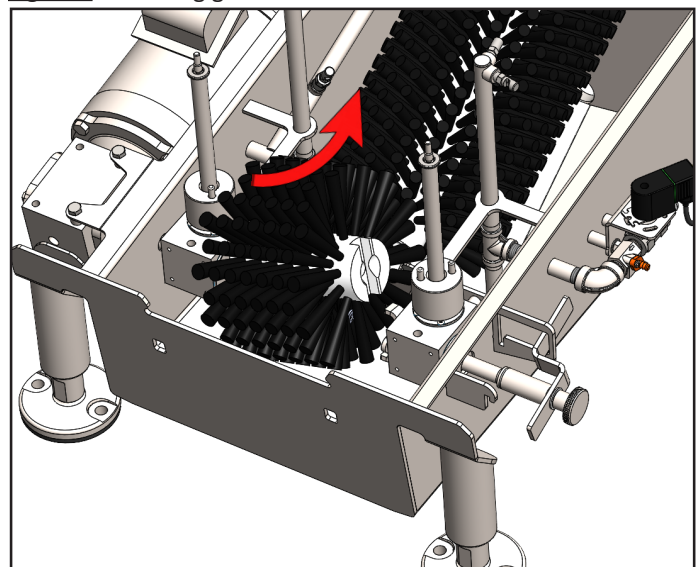

Fig. 8.3: Removing small sole brush
7. Lift the small sole brush out of the tub by grabbing the open end and lifting up to clear the opposing drive shaft anchor [Figure 8.3].